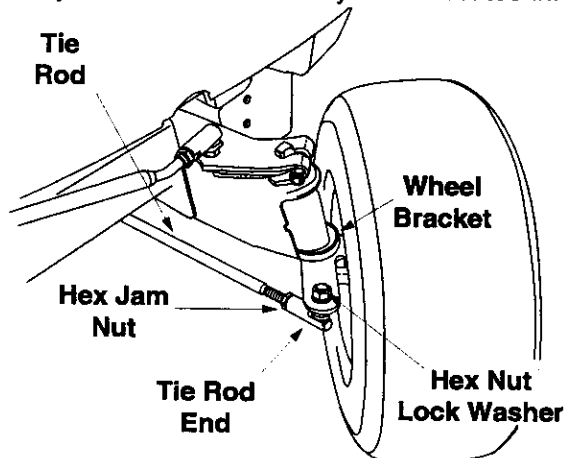

Figure 19
1. Remove the hex nut and lock washer, and drop the end of the tie rod from the axle bracket. See Figure 19.